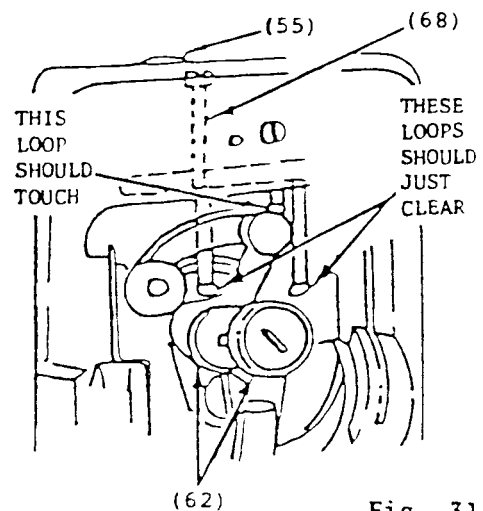

Fig. 31
Oil wick holder includes two oil wick leaders for the two sets of needle bearings in the needle bar connecting link and thread take-up as shown in Fig. 31. It is removed in the following manner:-
3. When oil wick leaders are correctly installed, replace holder screw (68), Fig. 31.